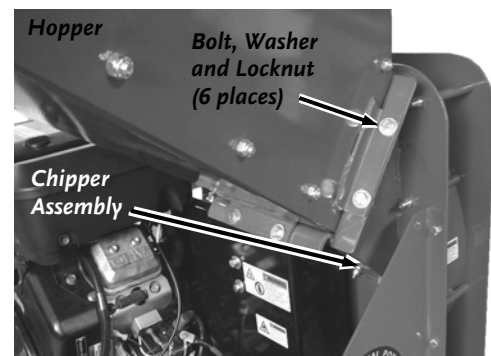

Figure 32
1. Have someone support the Hopper as you use two 1/2" wrenches to remove the six Bolts, Washers and Locknuts that support the Hopper to the Chipper Assembly (**Figure 32**).